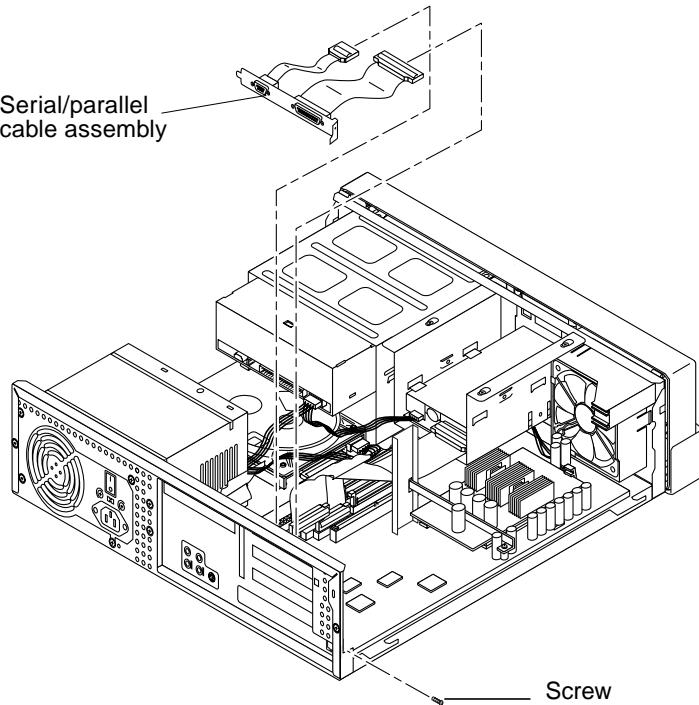

FIGURE 6-4 Removing and Replacing the Serial/Parallel Cable Assembly
2. Remove the serial/parallel cable assembly as follows (FIGURE 6-4):
1. Replace the serial/parallel cable assembly as follows (FIGURE 6-4):